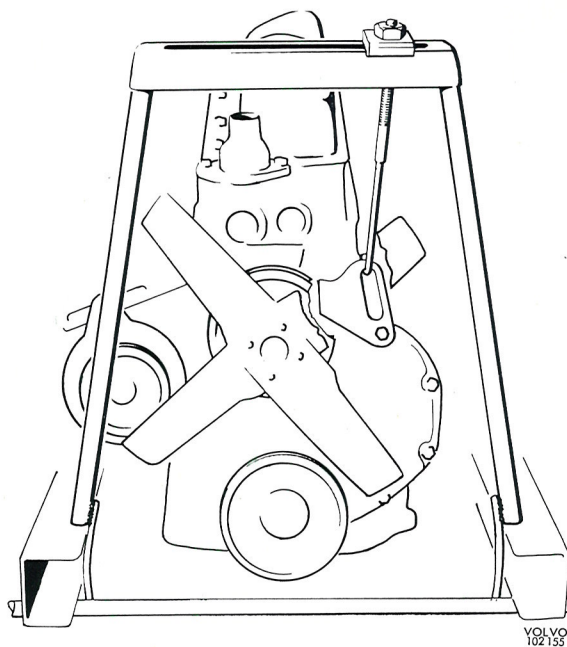

Fig. 2-16. Lifting tool SVO 2727
1. Fit the plate of the lifting tool SVO 2727 at the upper bolt for the timing gear casing. (Remove the washer.) Place the lifting tool and fix the hook in the plate according to Fig. 2-16. Raise the front end of the engine until there is no weight on the engine mountings. Remove the oil dipstick.